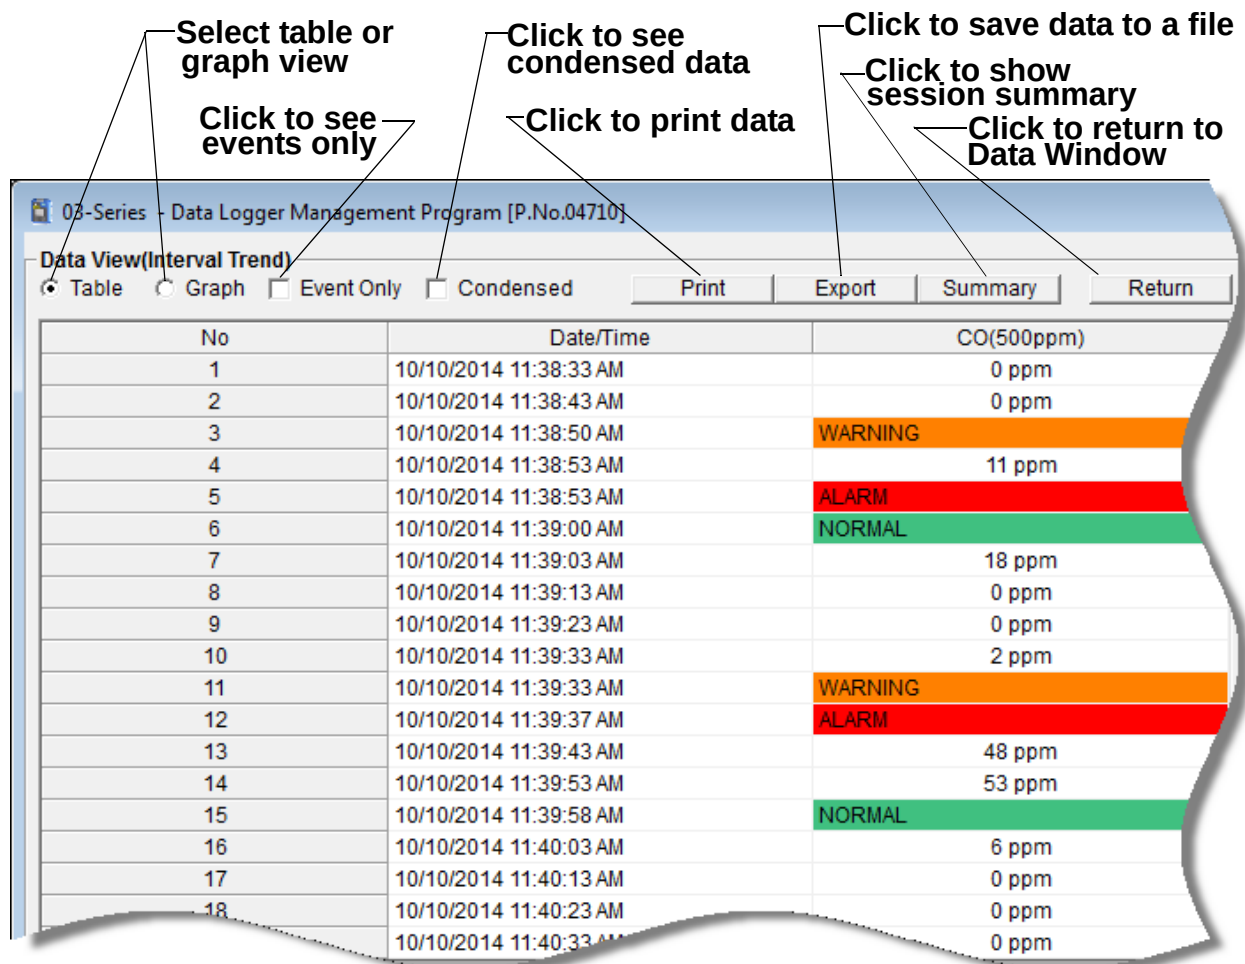

Figure 34: Interval Trend Data in Table Format
7. Interval trend data can be viewed in either table or graph format by selecting the Table or Graph selection buttons. The example below in Figure 34 is shown in table format.